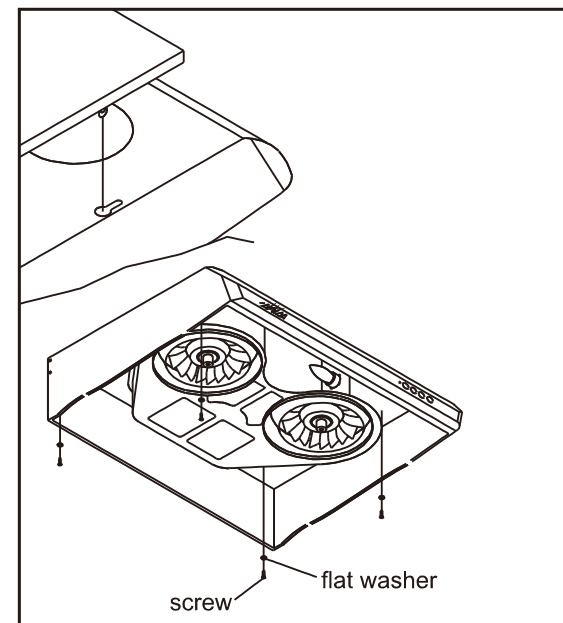

Fig. 13 Fit the keyhole slots over the screws
9. Fit the four wider ends of the keyholes into the four screws on the cabinet, then adjust the hood till the screws are pushed into the narrow part of keyhole slots. Loose the 3/16" washers to screw on together. (Don't screw on too tightly.)(Fig. 13)